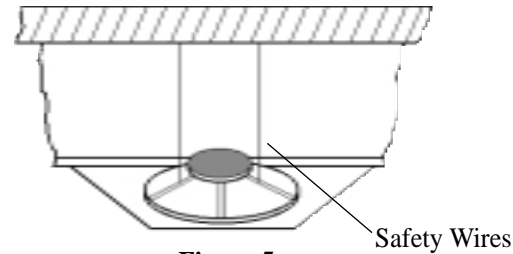

Figure 5
- Always attach the speaker to a structural component above the ceiling with a minimum of two safety wires. (see Figure 5).